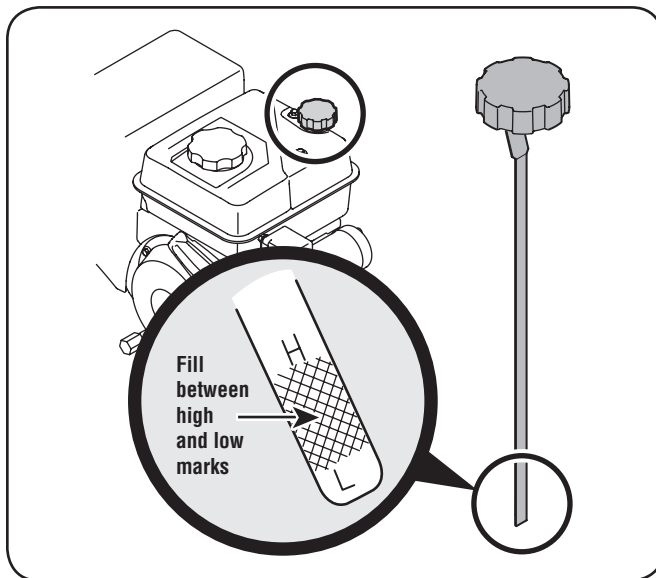

Figure 3-8
1. Remove the oil filler cap/dipstick and wipe the dipstick clean. See Fig. 3-8.